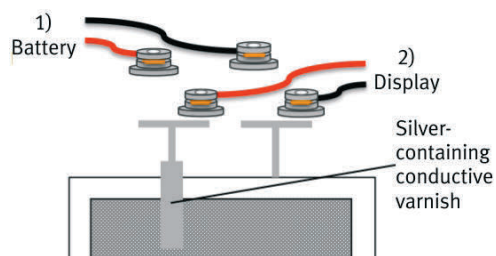

Figure 24: Establishing contact between the top of the filled in square and the terminal on the template with silver-containing conductive varnish
- Finally, connect the left-hand terminal with the help of silver-containing conductive varnish (see figure 24).